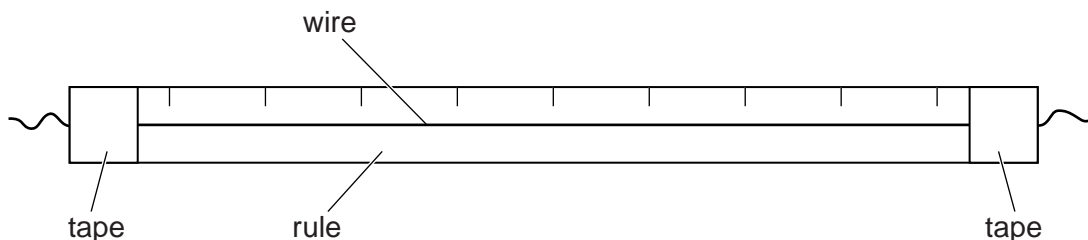

Fig. 1.1
- 2 The wire should be attached to the metre rule using adhesive tape, as shown in Fig. 1.1.